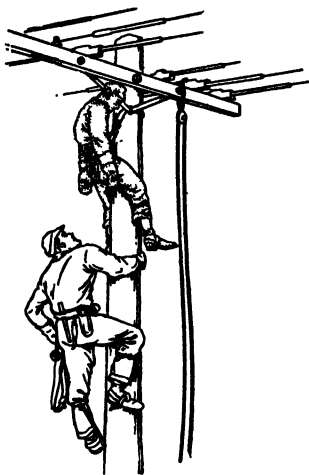

FIG. 32-1. Rescuer observes pole conditions and plans his action. He will remove any tools from victim's belt that may injure victim or himself.
**Protection.** The rescuer shall wear rubber gloves and rubber sleeves (if required) and, as he climbs and approaches the victim, he shall observe pole conditions and in the safest way to himself proceed to free the victim from contact, if this is necessary. He must do this in a safe manner that does not expose any unprotected portion of his body to contact with the victim's body or any nearby uncovered elements of the electrical system (Fig. 32-1).